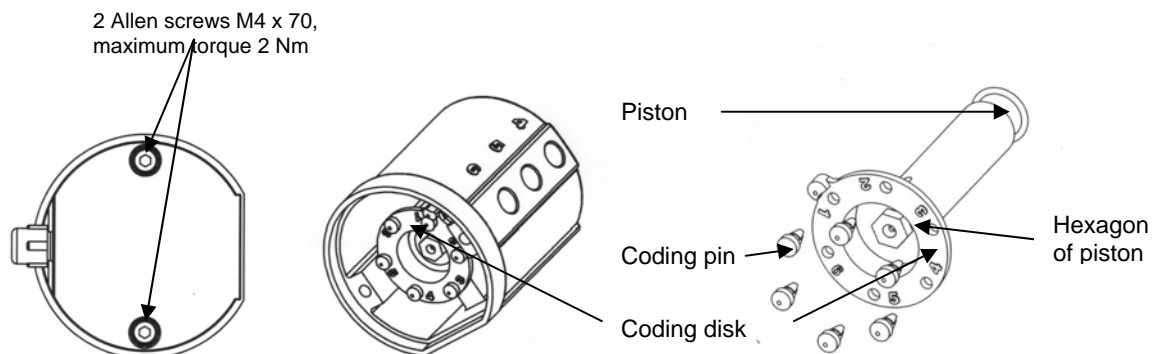

Figure 5
- ◆ Unscrew the two Allen screws (M4 x 70) at the lower part of the drive unit (refer to figure 5).
- ◆ Insert the coding pins according to the open outlets into the corresponding bores of the coding disk (refer to figure 5). For this, you simply have to insert the coding pins and since they are clip-on pins you can also remove them easily again.